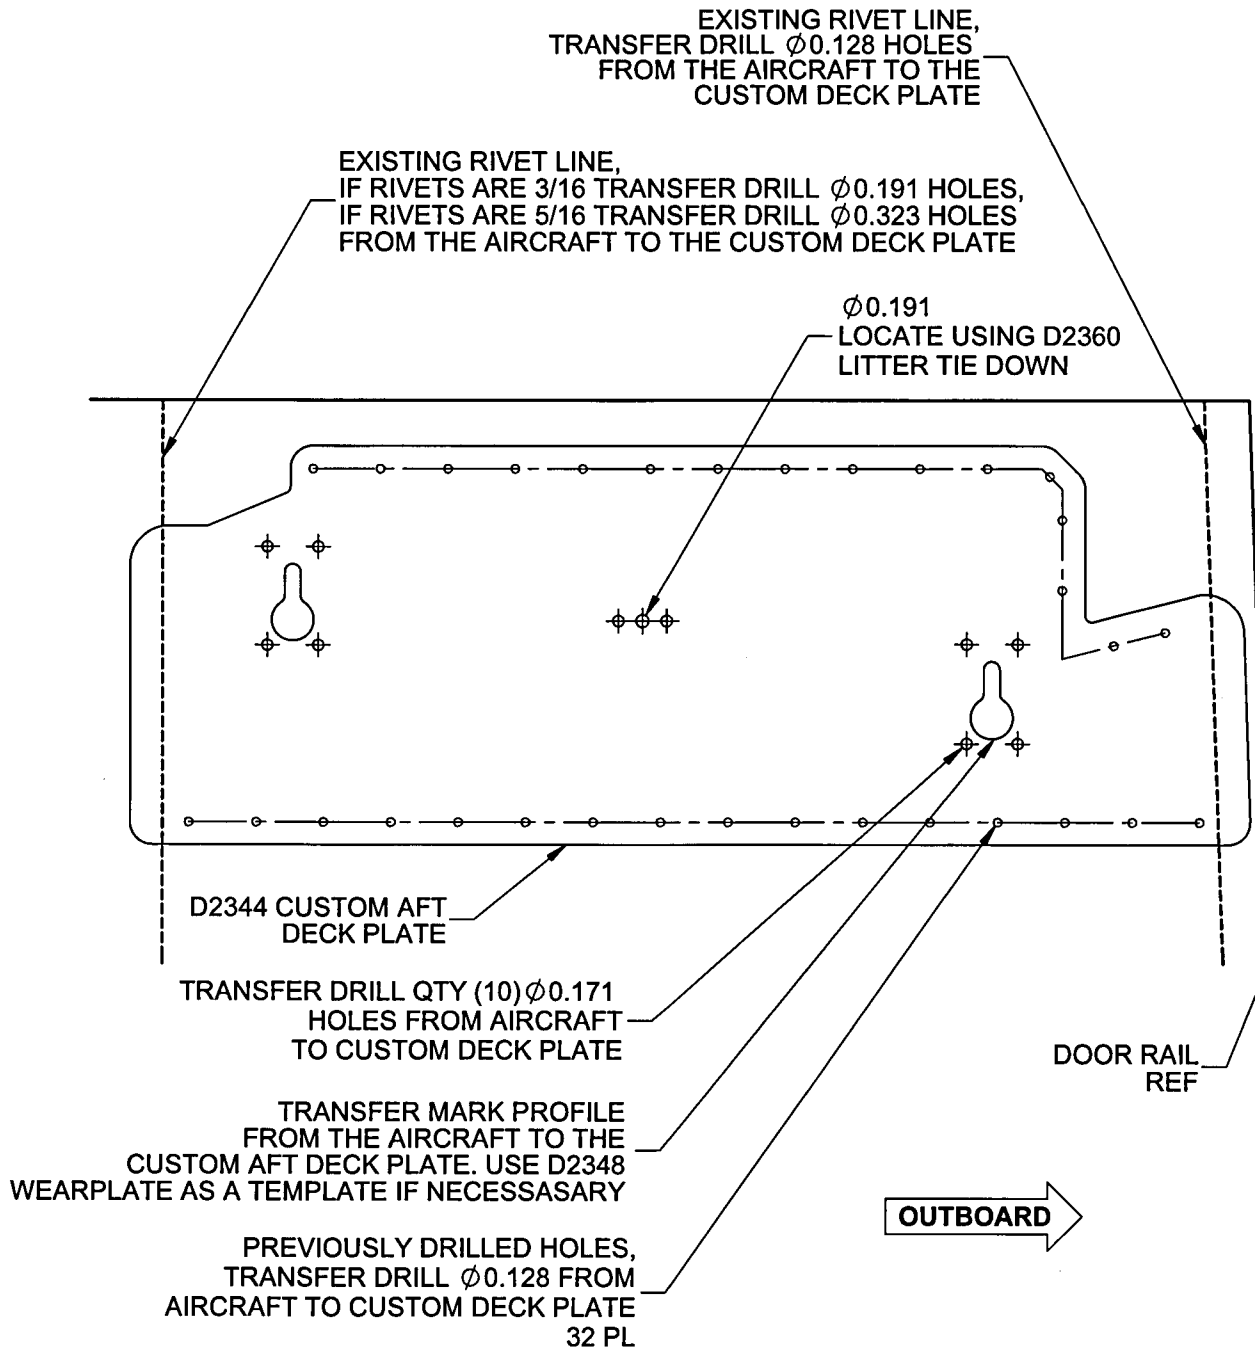

FIGURE 1: D2344 CUSTOM DECK PLATE INSTALLATION
- 1) Locate the D2344 Custom Aft Deck Plate on the aircraft per Figure 1 of this service instruction.
- 2) Transfer drill all holes and profiles from the aircraft to the custom aft deck plate per Figure 1 of this service instruction. Maintain a minimum edge distance of 2D and a minimum pitch of 3D.